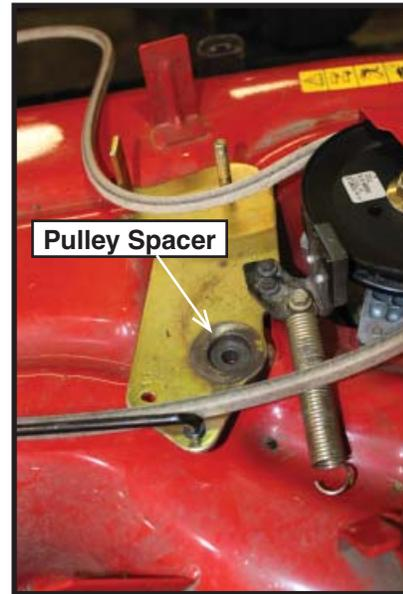

Figure 4
6. Remove the 3/8-16x1.75" hex screw that secures the idler bracket to the cutting deck. NOTE: The nut can be accessed from under the cutting deck. Also remove the pulley spacer. Figure 4.